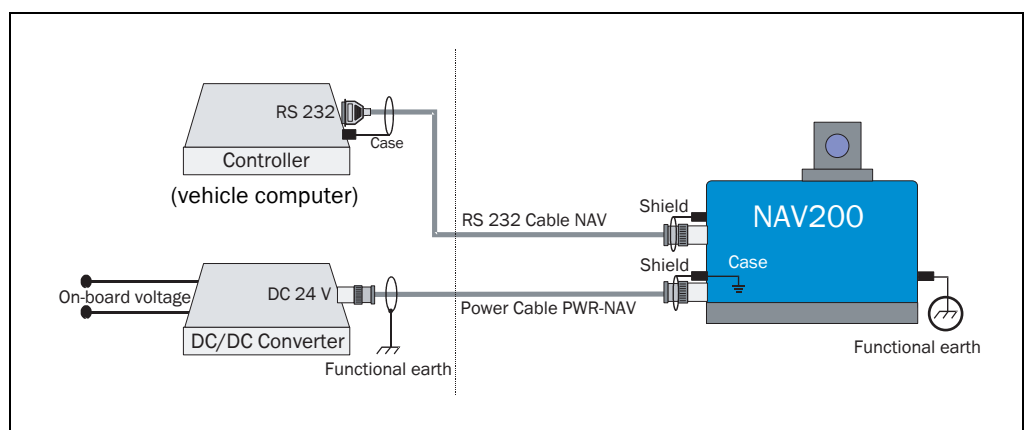

Fig. 5-1: Screening concept of the NAV200
- Electrically connect the screen of the power supply of the NAV200 to the vehicle chassis in accordance with Fig. 5-1!